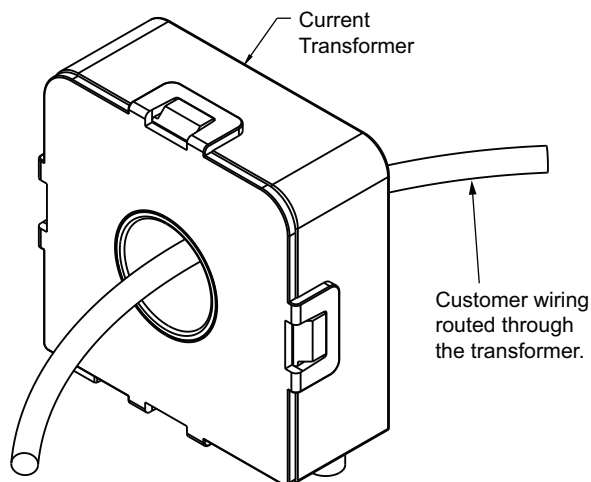

Fig. 7 — Routing Power Lead through Transformer
6 Pin (Fig. 7) B or D in Digit 10	No
3. Route one power lead (L3) through the current transformer (CT), as shown in Fig. 7 and 8.